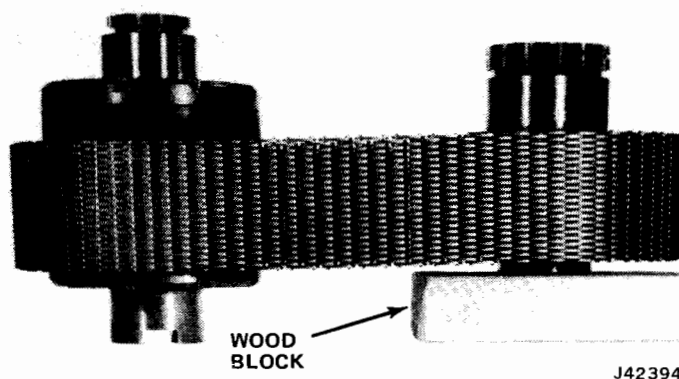

Fig. 8-43 Drive Chain Positioned Around Differential and Drive Sprocket
(3) Install drive chain on drive sprocket and differential assembly as shown (fig. 8-43).